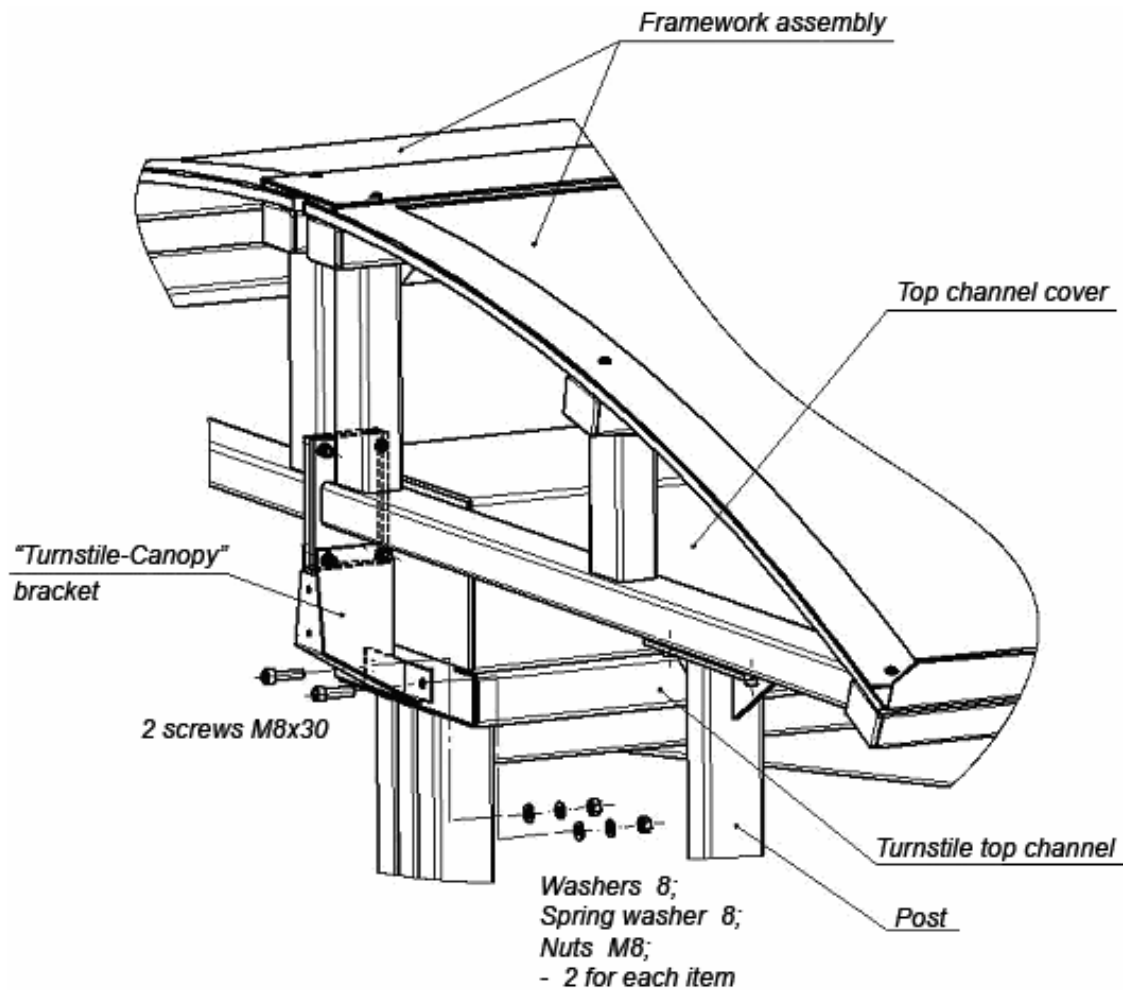

Figure 9. Fixing the «Turnstile-Canopy» bracket to the canopy jointing flanges (6) and the turnstile top channel
8.3.14.3 Install the bracket on the flanges and fix it with the earlier undone screws (Fig. 9);
8.3.14.8 Put two screws M8×30 through the holes in the bracket and fasten them by nuts with washers from inside the top channel, as shown in Fig. 9.